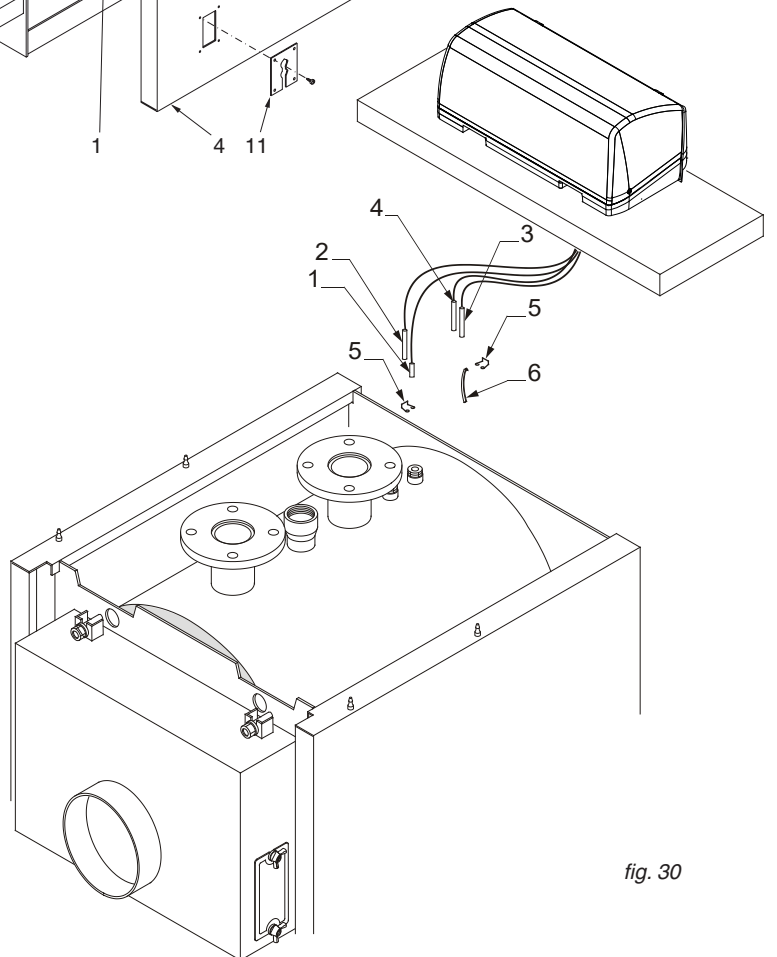

fig. 30
- E) Insert into the conduits the bulbs of the instruments as shown in Fig. 30 and wire the panel board to the power line, to the burner and to any pumps, etc.
- A) Mount the insulation (pos. 1) of the boiler body and secure the 2 edges with the elastic straps (pos. 2) supplied in the accessory box, hooking them to the external fabric part of the insulation.
- B) Position the side panels (pos. 3a, 3b and 4a, 4b) with the lower bend inside the L-shaped profile at the base of the boiler body and hook the upper part to plate junction profiles. To determine which is the right side and which is the left side, refer to the cable gland plates on the front panels (pos. 5): they must face the front of the boiler. Fasten the 4 countersunk screws (pos. 8) to the two sides 3b and 4b on the inner rear side.
- C) Press fit the bottom rear panel (pos. 9) and fasten the top rear panel (pos. 10) to the screws pos. 8.
- D) Rotate the cover of the panel board frontwards after having removed the two screws on the side and insert the electric inlet cables and the outlet probe capillaries through the slots at the base. Fix the panel board to the upper panel (pos. 12). Fit the upper panel pos. 12, complete with panel board, to the two sides of the casing.
- E) Insert into the conduits the bulbs of the instrumentsire nelle guaine i bulbi degli strumenti come indicato in Fig. 30 and wire the panel board to the power line, to the burner and to any pumps, etc. Close the cover of the electric control board. Guide the burner plug through the side plate (pos. 5) on the preferred side and secure the cable with the cable gland supplied. Fasten the plates (pos. 5) to the sides of the casing. Secure the electric cables coming out from the rear of the boiler with the cable clamps, tightening them moderately.
- F) Fit the upper longitudinal panels (pos. 13 and 14) hooking them to the sides.
- G) Fix the installation and boiler data plate (pos.15) to the side panel after having degreased the relevant part with the specific solvent.